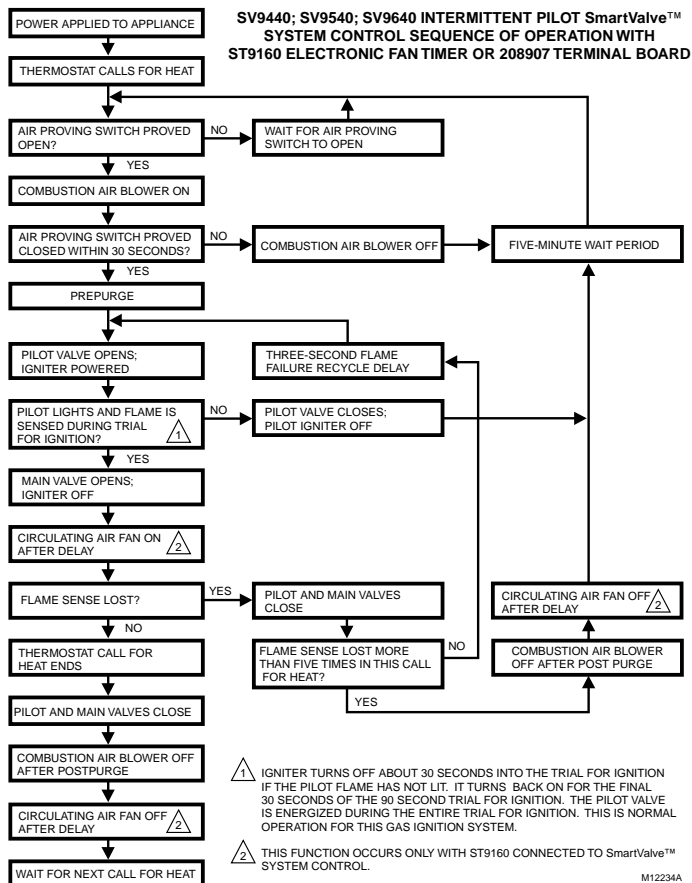
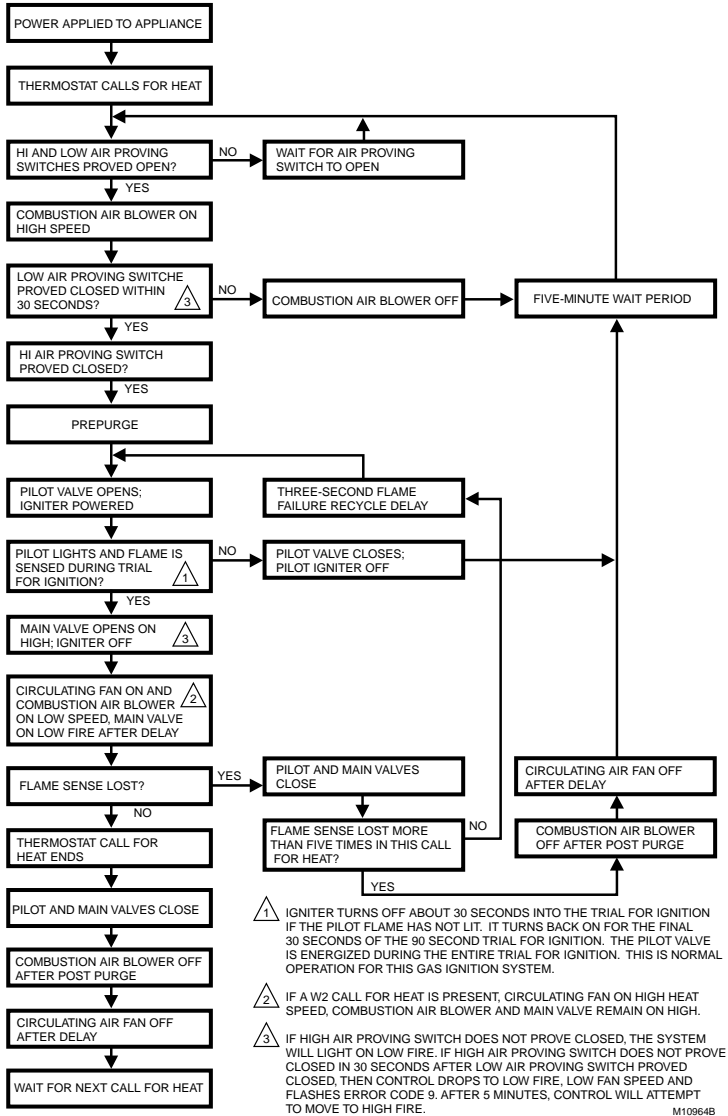

Fig. 14. Sequence of operation for ignition controls with ST9160 fan timer or 208907 terminal board.
Fig. 15. Sequence of operation for two-stage ignition controls with ST9162 fan timer.
2. Follow the sequence of operation as shown in Fig. 14 for ignition controls using an ST9160 Fan Timer or 208907 Terminal Board; see Fig. 15 for two-stage ignition controls with an ST9162 fan timer.
5. Observe the ignition sequence, comparing it to the Sequence of Operation shown in Fig. 14 or 15. Allow the new ignition sequence to proceed until appliance lights or an abnormal or unexpected event is observed.
6. Observe the appliance operation, comparing it to the Sequence of Operation shown in Fig. 14. Allow the ignition sequence to proceed until the appliance lights or an abnormal or unexpected event is observed.